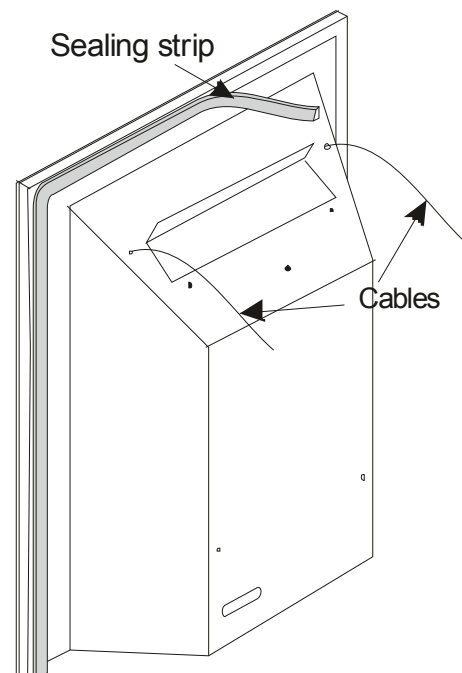

Figure 53
4. Apply the foam sealing strip all round the rear edge of the firebox flange by removing the protective backing paper (see **Figure 53**).
5. Unpack the cable fixing kit and feed the cable ends through the top holes on the sides of the flue outlet (see **Figure 53**). Ensure that the ceramic back is not scuffed whilst pulling the cables through.